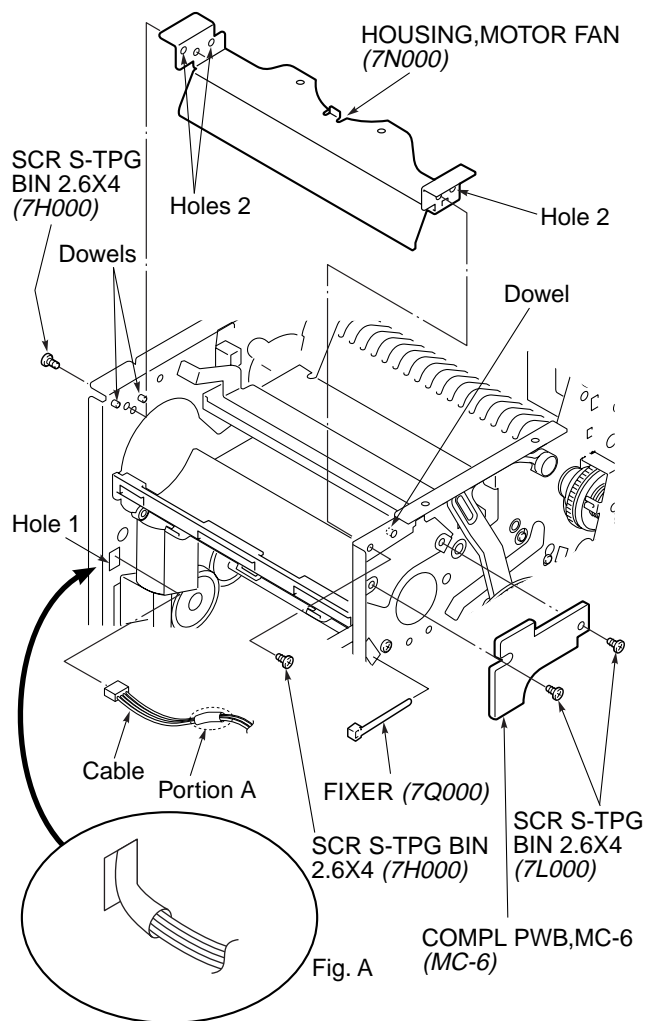

Fig. 3-13-1
(See Fig. 3-13-1)
2. Pass the cable through hole 1 and put portion A over hole 1 as shown in Fig. A of Fig. 3-13-1.